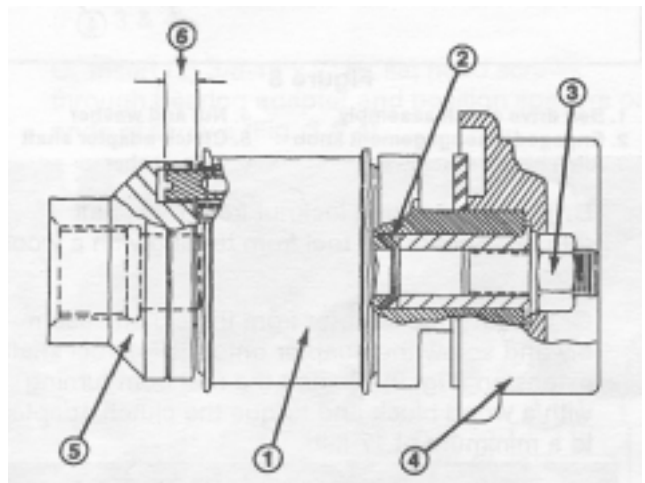

Figure 11
Important If the clutch mechanism has separated due to the removal of the nut and washer, ensure the Belleville washers are properly installed; refer to figure 11.
1. Remove the left side grooming reel housing cover (Fig. 3). Remove the drive belt by loosening the idler pulley (Fig. 11).